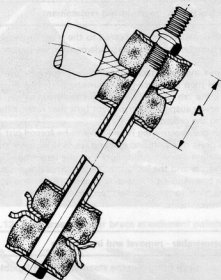

Fig. 11.5. Stabiliser bar end mounting (Sec. 6)
- 4 Assemble the end link rubber bushes as shown in the diagram and tighten the link nuts so that the overall dimension of the mounting bush components is also as specified in the diagram (Fig. 11.5).